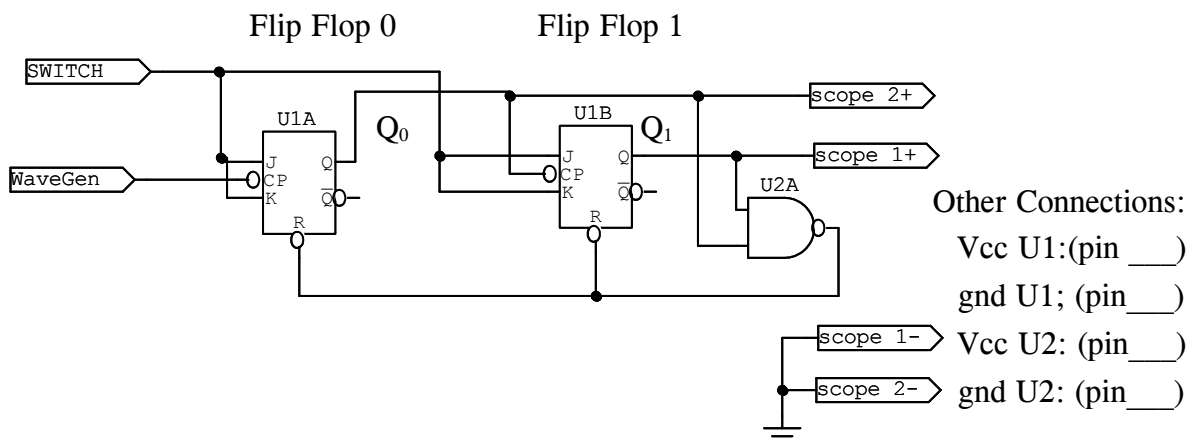

Figure 8, Suggested Truncated Asynchronous Binary Counter
(1) Before disconnecting your asynchronous counter add a decoder to the circuit so it is a modulo 3 instead of modulo 4 counter. One way of doing the is a simple NAND gate with the inputs connected to Q₁ and Q₀ and the output connected to both R* inputs of the 7473 instead of the switch. See figure 8, below.